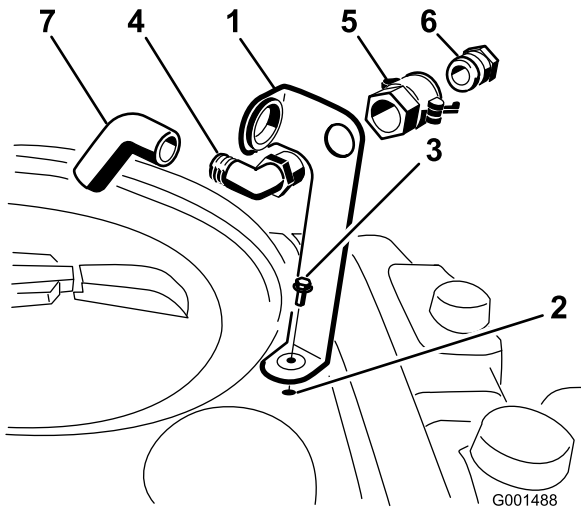

Figure 3
- Place the fill receptacle bracket over the threaded hole in the tank and secure it with a flange-head bolt (5/16 x 3/4 inch) (Figure 3).
- Place the threaded end of the 90 degree elbow fitting through the bracket and thread the quick coupler onto it, securing it to the bracket (Figure 3).
- Install the hose adapter into the quick coupler (Figure 3).
- Lock the adapter into place by swinging the levers toward the adapter and then secure them with the hairpin cotters (Figure 3).
- Install the anti-siphon hose through the large opening on the bracket and onto the barbed end of the 90 degree elbow fitting (Figure 3).